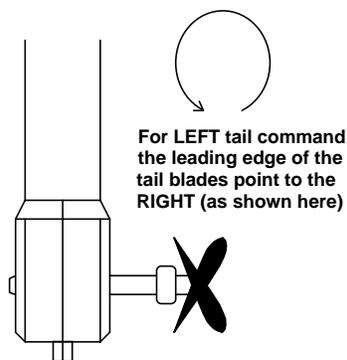

Figure 3 Getting tail servo operating sense right.
- The tail rotor servo operating sense has been correctly set in the transmitter. **Failure to do this will cause an uncontrollable pirouette on take-off and beginners who are in any doubt on this aspect of the set-up should seek advice.** The correct operating sense can be established by looking at the tail rotor blades. With a left tail rotor command held on, the leading edge of the tail blades are pointing to the right (see Figure 3)